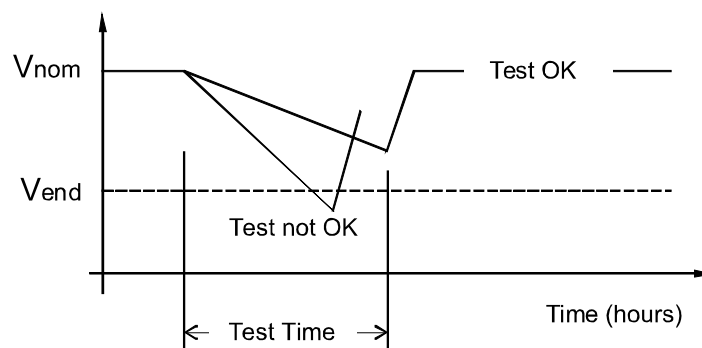

Figure 4
Functional Description: For manual battery discharge tests as well as for cyclic battery discharge tests, the following parameters must be set: End Voltage, Test Time, and Battery Capacity Discharge Limit. See Figure 4.
- The preset test time, see Figure 4, expires. The battery has passed the test.
- The battery voltage drops below the preset end voltage level (V_{end}) (Figure 4). The battery has not passed the test and the test is interrupted. A battery test alarm is activated.